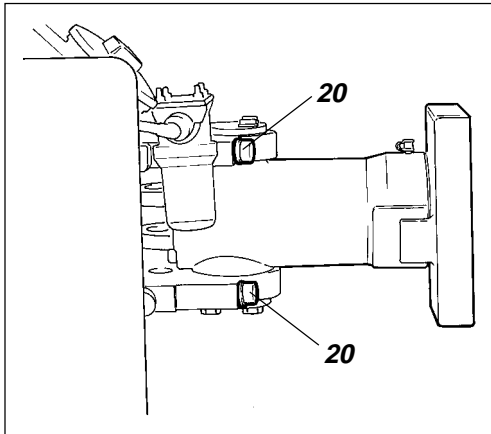

Fig. 3 Hitch to front frame
4. Fit in a screw with a nut in one of the empty holes at hitch's outer flange, test with a suitable torque wrench the force needed to turn the hitch, fig. 3.